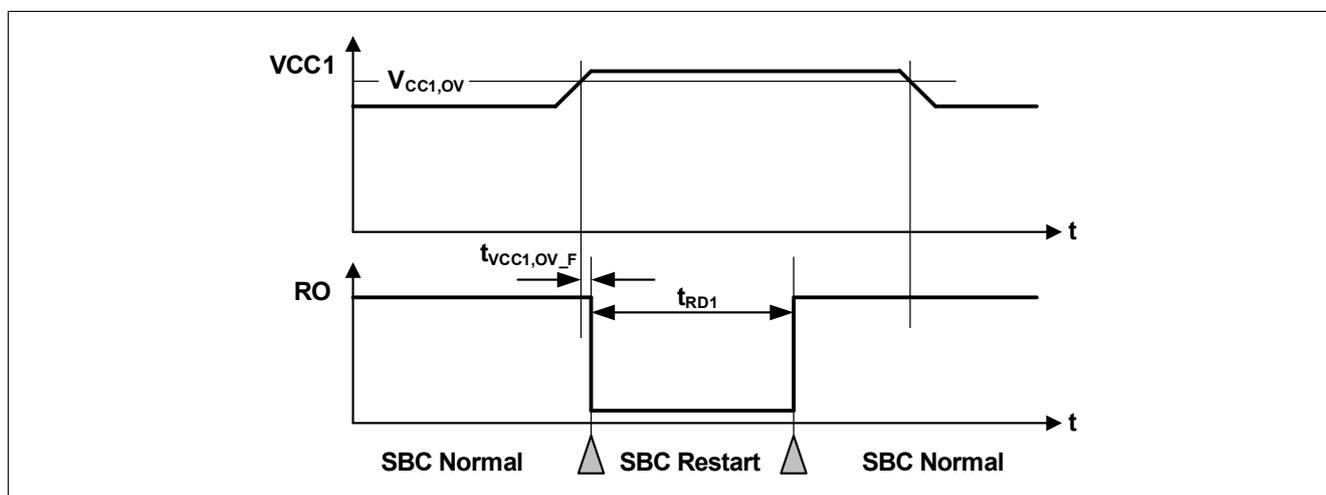

Figure 52 VCC1 Overvoltage Timing Diagram
- If the bit **VCC1_OV_RST** is set and **CFGP** = '1', then SBC Restart Mode is entered. The FOx outputs are activated. After the reset delay time (t_{RD1}), the SBC Restart Mode is left and SBC Normal Mode is resumed even if the VCC1 overvoltage event is still present (see also **Figure 52**). The **VCC1_OV_RST** bit is cleared automatically;